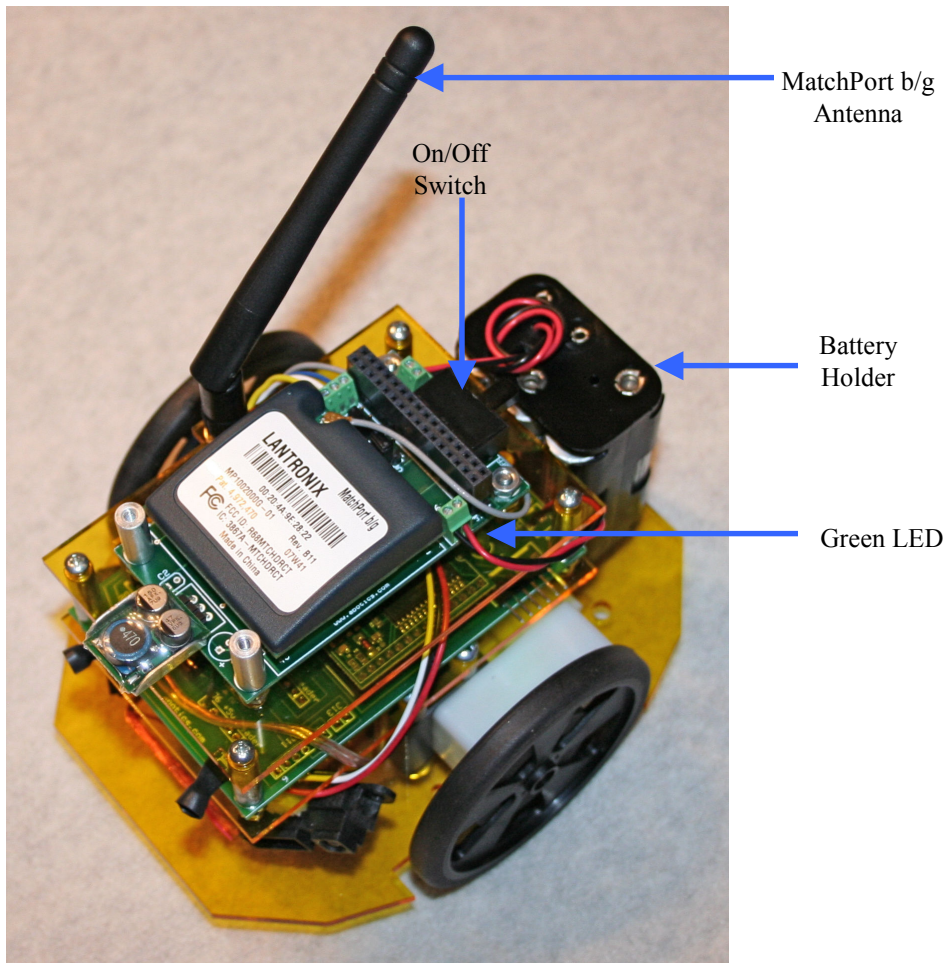

Figure 1. OPEN-ROBOT.
In figure 1 you can see the robot's on/off switch and the (6)-AA battery holder. Before we get started, remove the battery holder by unsnapping it from the robot's base plate. Firmly hold the robot with one hand while pulling the battery holder. Now load (6)-AA batteries into the holder while observing the proper insertion orientation. The negative (-) end of the each battery must be inserted such that it makes contact with the corresponding spring on the holder. ***Failure to do this will damage the robot's controller board.*** We recommend using 15-minute rechargeable AA-batteries, however, you can use regular alkaline batteries. After inserting the batteries snap the battery holder back onto the robot.